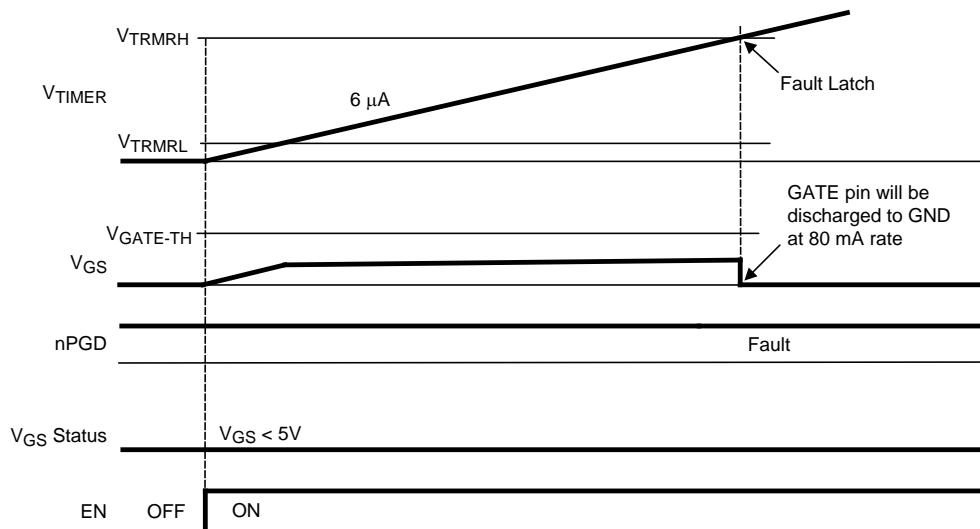

Figure 22. Voltages During Startup With  $V_{GS}$  Gate Leakage Condition
After applying sufficient system voltage and enabling the LM5060 by pulling the EN and UVLO pins high, the timer capacitor will be charged with a 6- $\mu$ A (typical) current source. The timer capacitor is discharged when the voltage difference between the GATE pin and the OUT pin (i.e.  $V_{GS}$  of the external N-Channel MOSFET) reaches the  $V_{GATE-TH}$  threshold (typically 5 V). After discharging, the timer capacitor is charged with 11  $\mu$ A until either the  $V_{TMRH}$  threshold (typically 2 V) is reached, or the sensed  $V_{DS}$  voltage falls below the threshold of the  $V_{DS}$  Fault Comparator, indicating the output voltage has reached the desired steady state level. The timer capacitor voltage waveforms are illustrated in Figure 21, Figure 22, and Figure 23.
2. Figure 22 shows a start-up waveform with excessive gate leakage. The initial charge current on the timer capacitor is 6  $\mu$ A (typical), while the simultaneous charge current to the gate is 24  $\mu$ A (typical). Due to excessive gate leakage, the 24  $\mu$ A is not able to charge the gate to the required typical 5 V  $V_{GS}$  threshold and the  $V_{DS}$  Fault Comparator will indicate a fault when the timer capacitor is charged to the  $V_{TMRH}$  fault threshold. When the timer capacitor voltage reaches the  $V_{TMRH}$  fault threshold (typically 2 V) the MOSFET gate is discharged at an 80 mA (typical) rate.